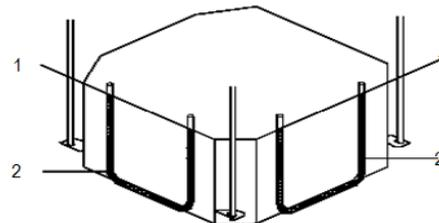

**Fig. 8 – Secure the Hanger Bracket**
- b. Secure the hanger bracket (see Fig. 8).